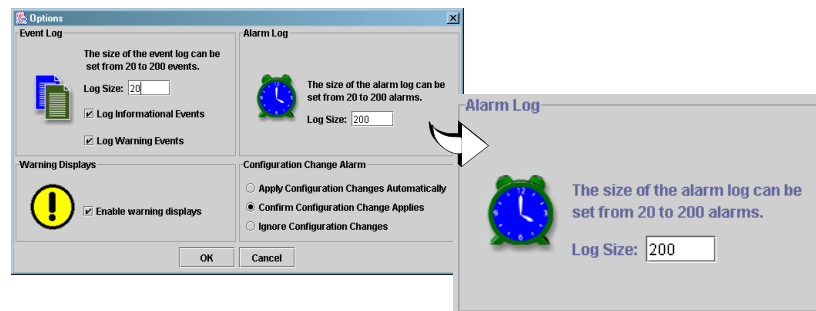

Figure 6-10. Options Dialog Box—Alarm Log Section
1. On the SANblade Manager main window **View** menu, select **Options**. The **Options** dialog box displays (see figure 6-10).